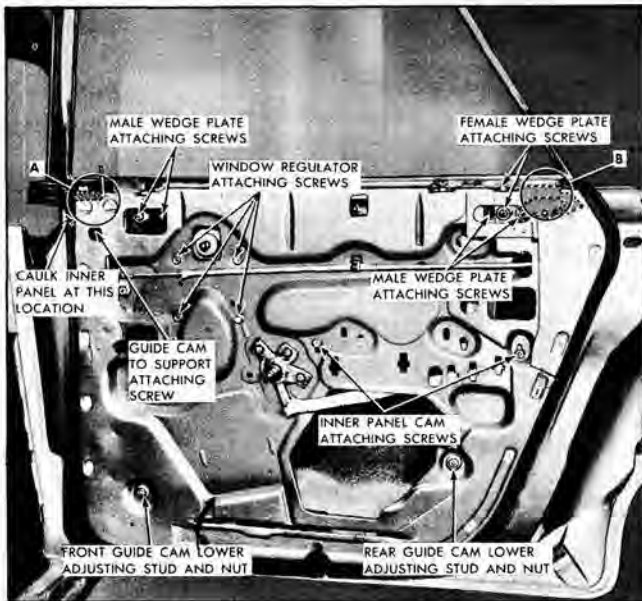

Fig. 3-44 Rear Door - "39" Style
rear male wedge plates to window lower sash channel and remove wedge plates (Fig. 3-44).
3. Lower door window and remove lower sash channel cam attaching screws (Fig. 3-44).
a. Loosen lower adjusting stud nut on both front and rear guide cams (Fig. 3-44).